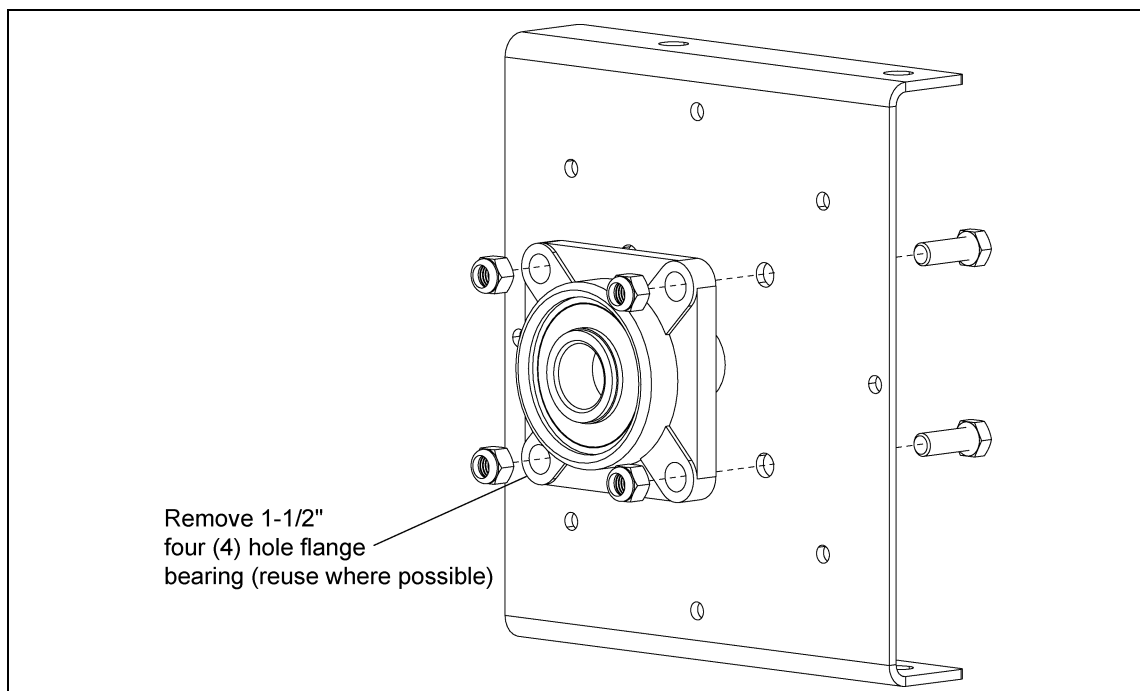

Figure 4E
9. Unbolt and remove the 1-1/2" four (4) hole flange bearing. Where possible, this bearing will be reused with the new horizontal drive parts. (See Figure 4E.)